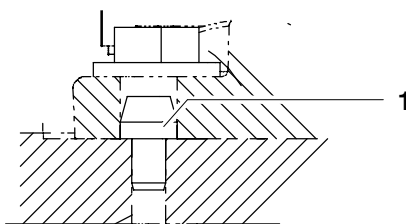

Fig. 71 Locating pins
- (1) Check that both locating pins (Fig. 71/1) are undamaged and fitted securely.